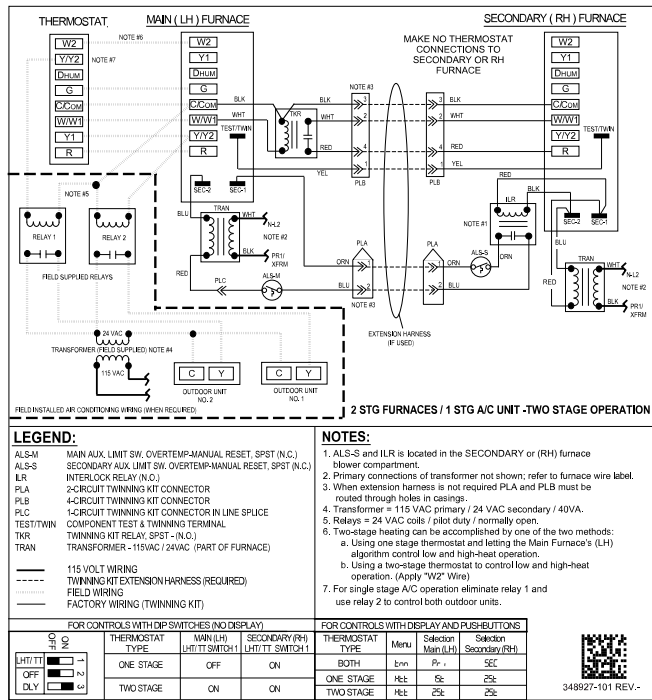

Fig. 22 – Two-Stage Furnace
See Fig. 22 and Table 5
- For boards with DIP switches, turn SW1-2 on furnace control OFF, see Fig. 22.
- For boards with 3 digit display, navigate to (Ht) and select (1St), see Fig. 22. See furnace installation manual for additional instructions.
- For boards with DIP switches, turn SW1-2 on furnace control ON, see Fig. 22.
- For boards with 3 digit display, navigate to (Ht) and select (2St), see Fig. 22. See furnace installation manual for additional instructions.